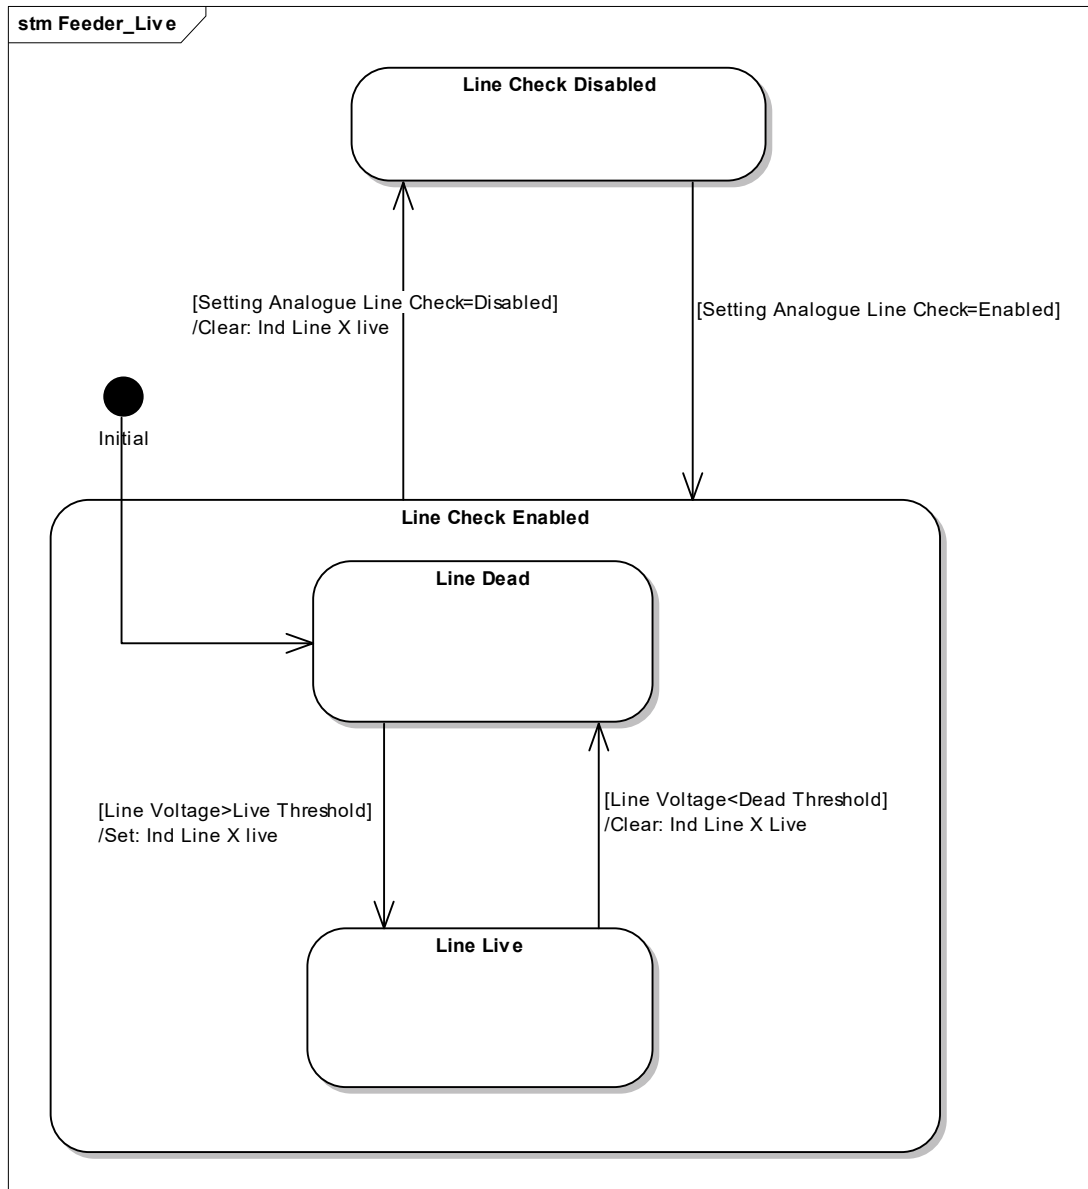

Figure 9: Feeder function feeder live- state chart
- Figure 9: Feeder Live: Perform the voltage monitoring for the line